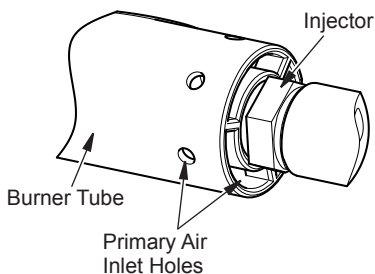

Figure 23 - Burner and Injector Holder
2. Inspect burner, pilot and primary air inlet holes on injector for dust and dirt (see Figure 23).